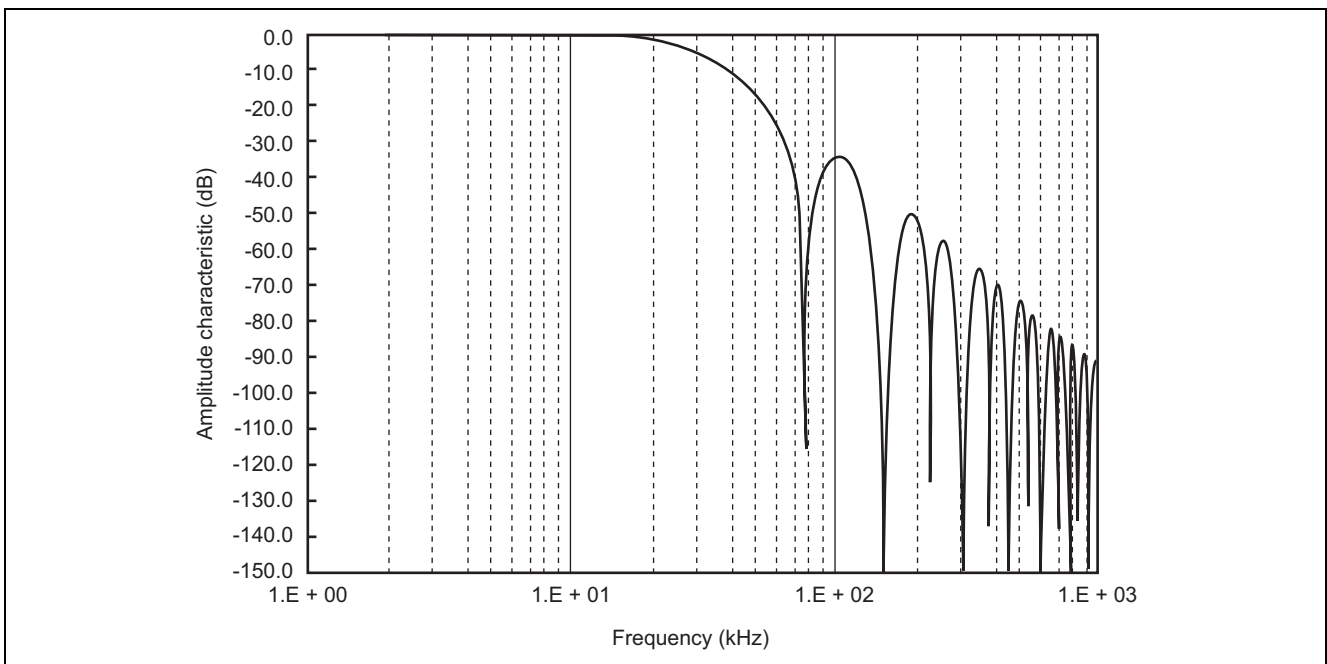

Figure 7.3 Frequency Characteristics of the Digital Filter for the H8/38086R $\Delta\Sigma$ A/D Converter (Oversampling Frequency: 10 MHz) (2)
- Although both figures show the same frequency characteristics, the X-axis is a logarithmic scale in the case of figure 7.3.